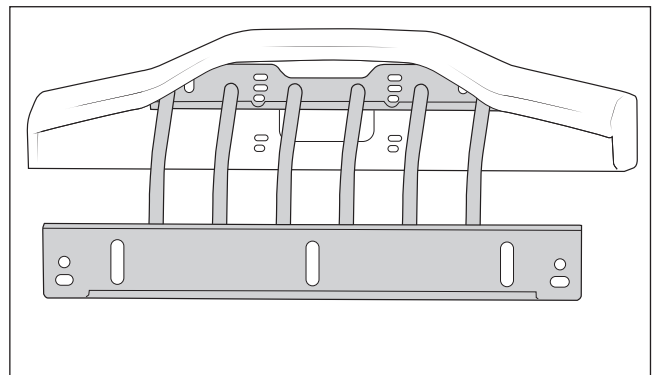

Figure 5
- B. For 2013 1/2 – 2018 trucks, the forward set of holes on the bumper will be used (fig. 5).